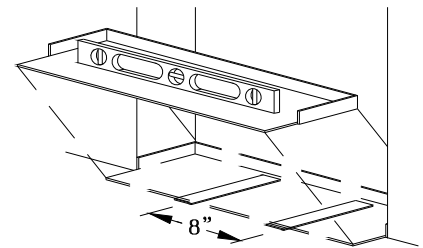

Figure 1:
- Shim as necessary to stabilize the entire depth and length of the sillpan. No unsupported width of more than 8" is allowed (Figure 1).